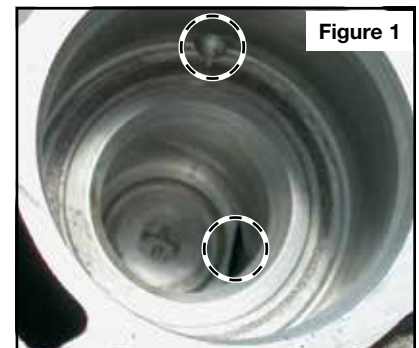
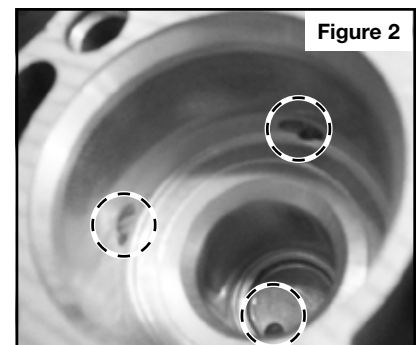

Figure 1
Figure 2
- Align the sleeve cutout with the feed hole coming in from the side of the bottom of the bore (**Figure 1**). Some applications will have the feed hole coming up from the bottom of the bore; in this case the sleeve does not need to be indexed (**Figure 2**).